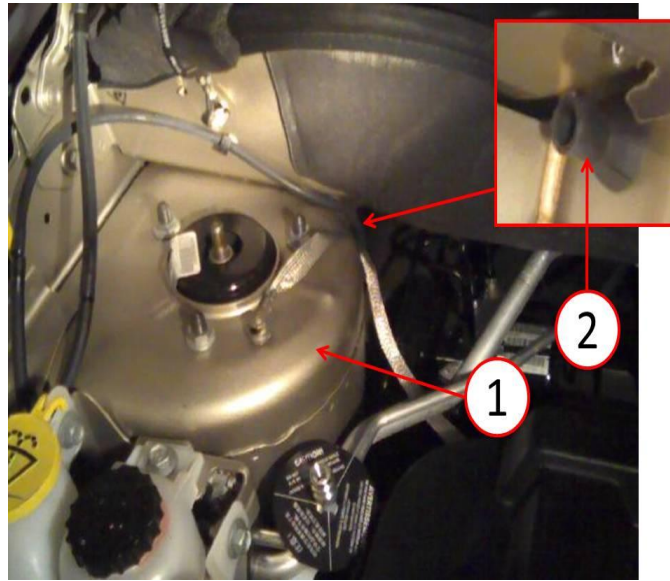

Fig. 7 Right Front Drain Tube
3. Route the new right side sunroof drain tube through the engine side of the bulkhead (Fig. 7).